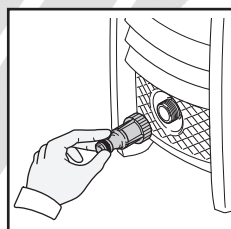
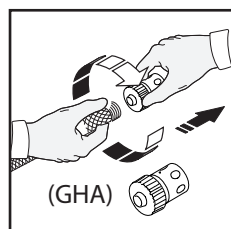
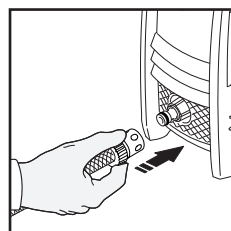

Fig. 11
Fig. 12
Fig. 13
- First, remove the plastic shipping cover on the water inlet on the front of the power washer. Attach the clear plastic adapter by screwing it into the water inlet (Fig. 11). Hand tight is fine. Next screw on the blue/black collar attachment to your garden hose (Fig. 12). Slide the blue/black collar onto the clear adapter (Fig. 13), it will "click" into place. The water is now connected to your power washer.